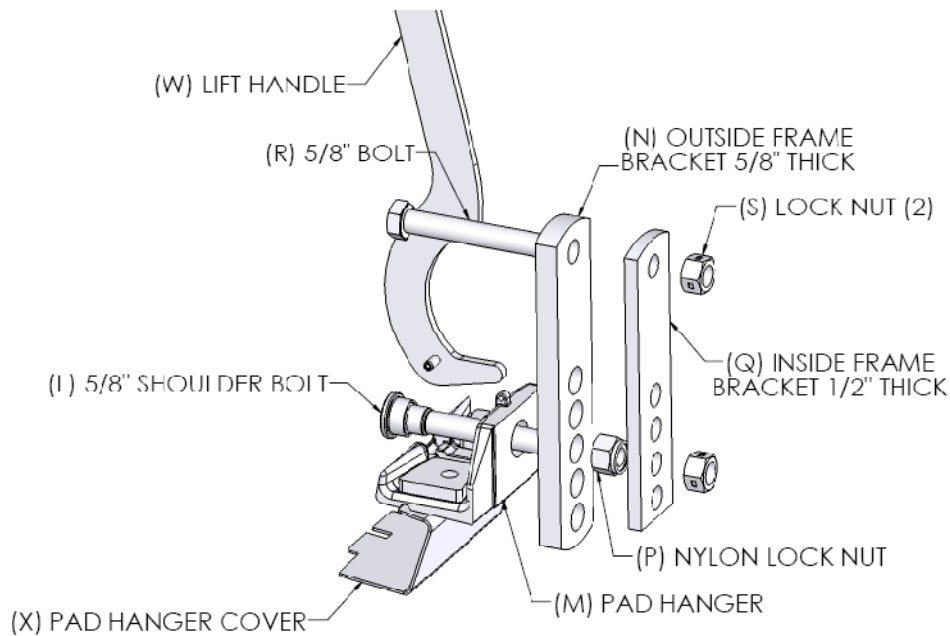

Fig. 2
FRAME BRACKET ASSEMBLY (600 and 800 lb kits only, shown in Fig. 2)
- Assemble 5/8\" shoulder bolt (L) through hole in pad hanger (M) and outside frame bracket (N) as shown in Fig. 2. Frame brackets have multiple lower mounting holes used for 3, 4, 5 and 6\" tall frames, insert the shoulder bolt through the highest hole not obstructed by the frame. Assemble 5/8\" nylon lock nut (P) and torque to 50-75 ft*lbs. Note: For 5\"all frames, the top nut flat may need to be oriented horizontally to prevent interference with the frame.
- Assemble inside frame bracket (Q) to the outside frame bracket using a 5/8\" bolt (R) through the top hole clamping the trailer frame between brackets. The center of the frame brackets should be placed approximately 29\" from the coupler ball center. The shoulder bolt will also pass through the inside frame bracket. Assemble 5/8\" lock nuts (S) as shown and torque to 120 ft*lbs.